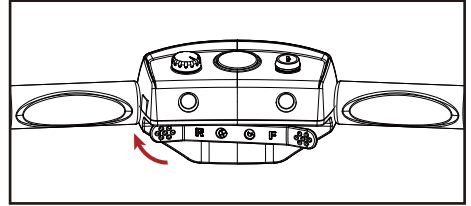

Figure 3: Reverse Throttle Operation
- To move backward: Push the lever inward with your left thumb(see Figure 3).